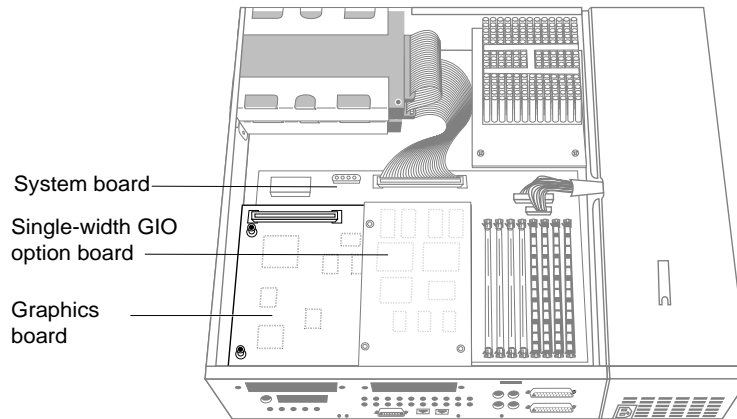

Figure 8-7 Locating the Graphics Board with GIO Option Board Installed
5. Move the system or position yourself so that you are facing the rear of the system, as shown in Figure 8-7.
There might be one double-width GIO option board, or one single-width board, or two single-width boards installed on the graphics board. Figure 8-7 shows one single-width GIO option board installed.